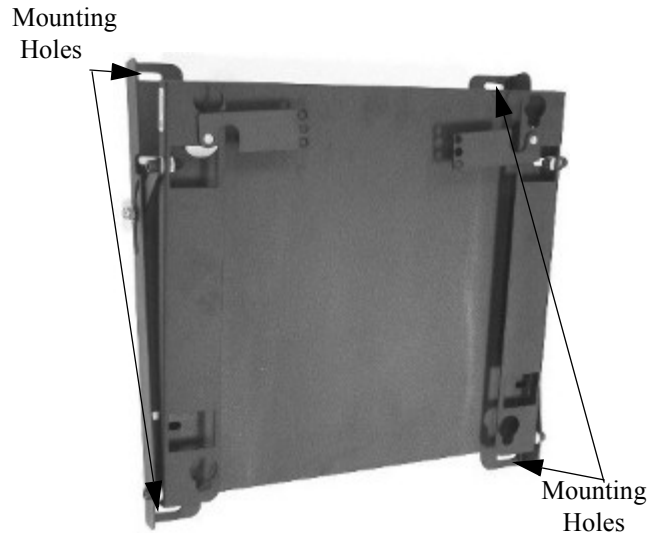

Figure 1. Mounting Hole Locations
2. With the mount correctly oriented and level, secure the mount to the wall (Figure 1) using four fasteners (not included). Fasteners must be driven into the supporting wall studs or other supporting framework.